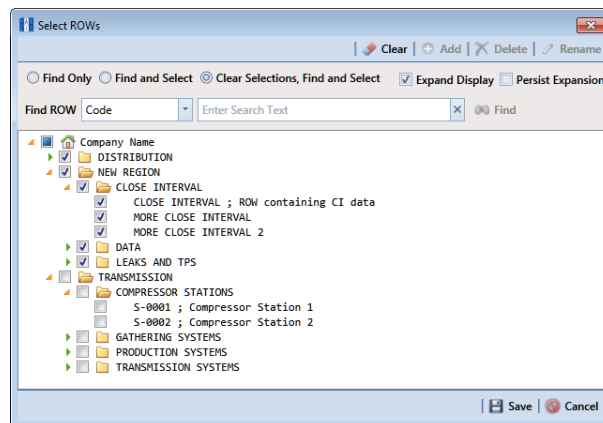

Figure 7-128. Select ROWs
- 1 Select one or more pipeline segments in the *Select ROWs* window (Figure 7-128). Click  **Save** to close the window.